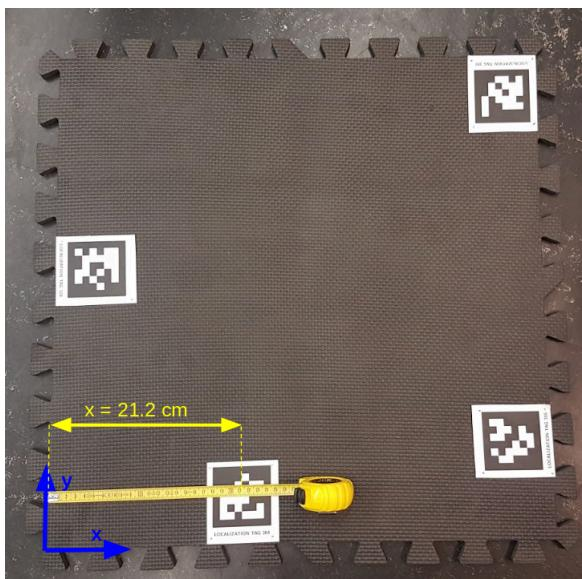

Figure 2.1. We measure from the inside band from the bottom left inner corner, defined as the origin of the tile
- The tiles have an internal and an external border, because of the interlocking slots. In the following, as for the map, take **the inside bottom left as reference for a tile**. (see Figure 2.1)